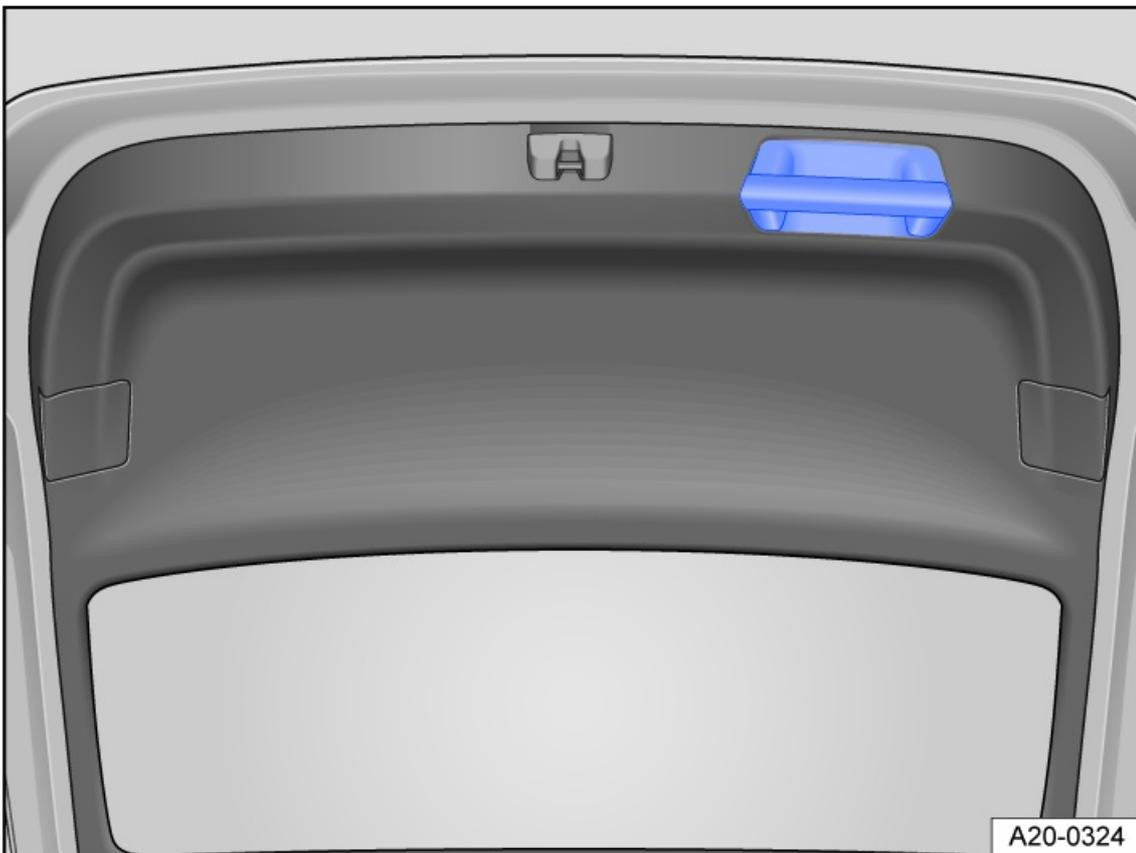

Fig. 58 In the open trunk lid: handle for closing the trunk lid.
1. Pull the trunk lid downward carefully using the handle in the interior trim panel until it latches shut in the lock *fig. 58*, ⇒